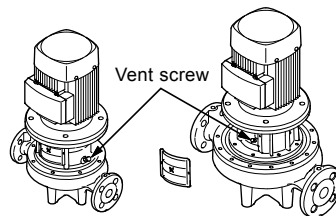

Fig. 15 Position of vent screw
1. Close the isolating valve on the outlet side and loosen the vent screw in the motor stool. See fig. 15.
2. Loosen the vent screw. See fig. 15.
- 3. Vent the pump during starting by loosening the vent screw in the motor stool until a steady stream of liquid runs out of the vent hole. See fig. 15.